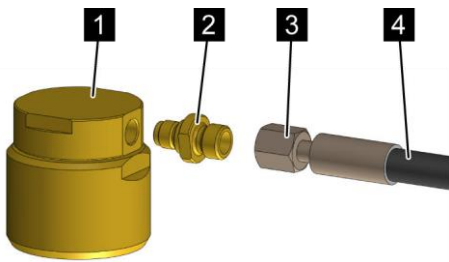

Fig. 82: Connecting the pilot line
6. ➤ Screw the adapter (Fig. 82/2) into a control connection of the pneumatic release device (Fig. 82/1) of a "slave" extinguishing agent container and tighten with $8 \pm 2 \text{ Nm}$ ($5.9 \pm 1.5 \text{ lb}\cdot\text{ft}$).
7. ➤ Connect the DN4 hose ($\frac{5}{32}$ " ; Fig. 82/4) with the adapters. To do this fit the hose onto the adapters and screw the cap nut (Fig. 82/3) with a wrench onto the thread of the adapter without using sealant.